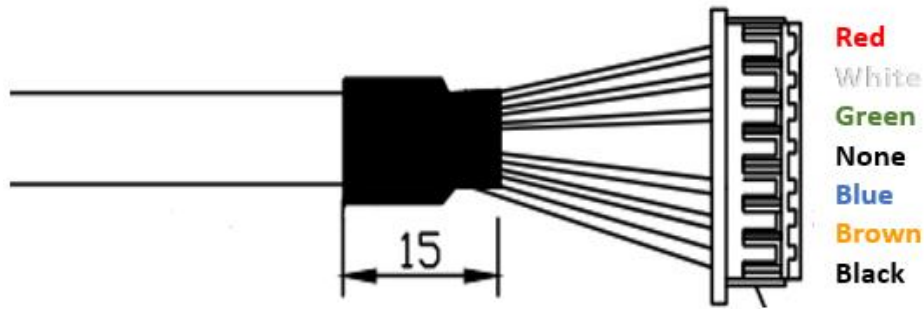

Figure 5 New Line Sequence of TF03
- Remove a wire, the amount of wire is 6 now, color is shown in Figure 5